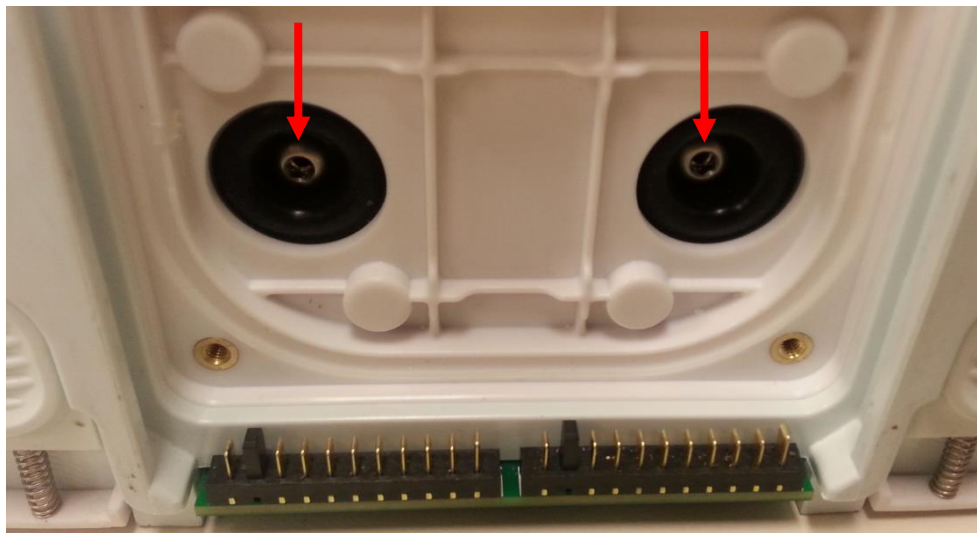

Figure 5: Compressor screws
3. Locate and remove the two screws connecting the compressor feet to the filter body with a 4mm Allen key driver (Figure 5).